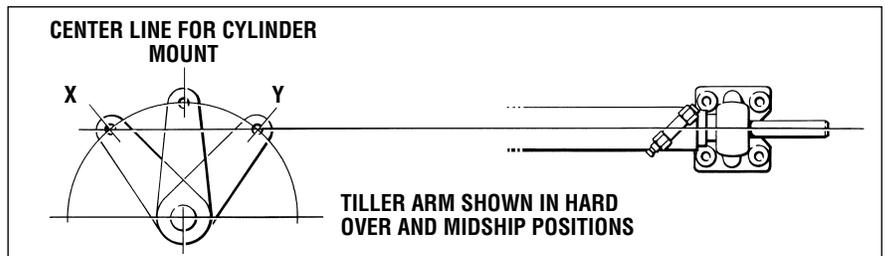

Figure 5-16.
Figure 5-16 illustrates the correct cylinder alignment, with the cylinder centerline defined by an imaginary line drawn through the tiller arm hole at both hard over positions. Use table 5-2 to determine the required tiller arm length (dimension 'A') for the application, based on required rudder torque and steering angle. Not all possible cylinder mounting configurations are shown, but all share the same key dimensions.
1. Determine the tiller arm length (dimension 'A') and foot bracket location (dimension 'B') from table 5-2. If the tiller arm length is already set, use figure 5-16 to locate the cylinder, keeping angles X and Y equal over the 7" stroke of the cylinder.
Figure 5-16 illustrates the correct cylinder alignment, with the cylinder centerline defined by an imaginary line drawn through the tiller arm hole at both hard over positions. Use table 5-3 to determine the required tiller arm length (dimension 'A') for the application, based on required rudder torque and steering angle. Not all possible cylinder mounting configurations are shown, but all share the same key dimensions.
1. Determine the tiller arm length (dimension 'A') and foot bracket location (dimension 'B') from table 5-3. If the tiller arm length is already set, use figure 5-16 to locate the cylinder, keeping angles X and Y equal over the 9" stroke of the cylinder.